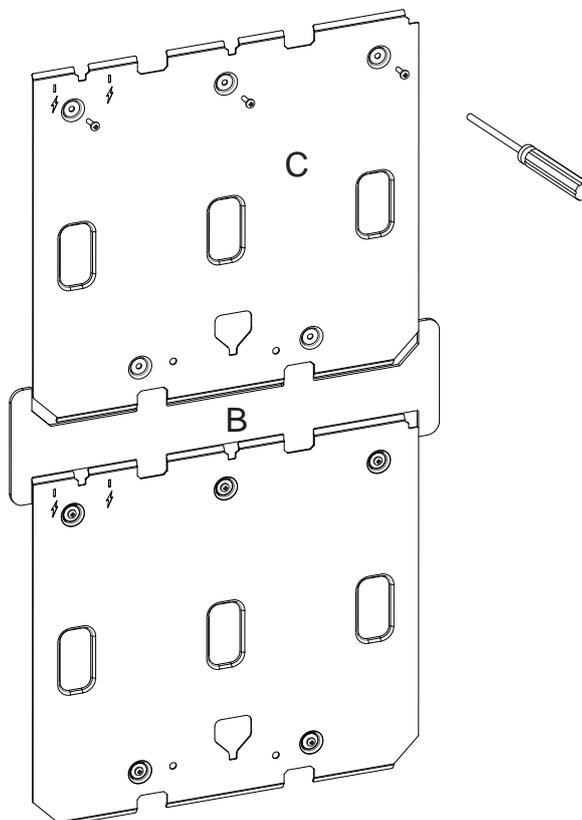

Figure A-27: Position and secure the Local Relay StaX Mounting Bracket
2. Align the Local Relay StaX Mounting Bracket (C) with the spacer (B), and secure it to the mounting surface (Figure A-27), then remove the spacer.